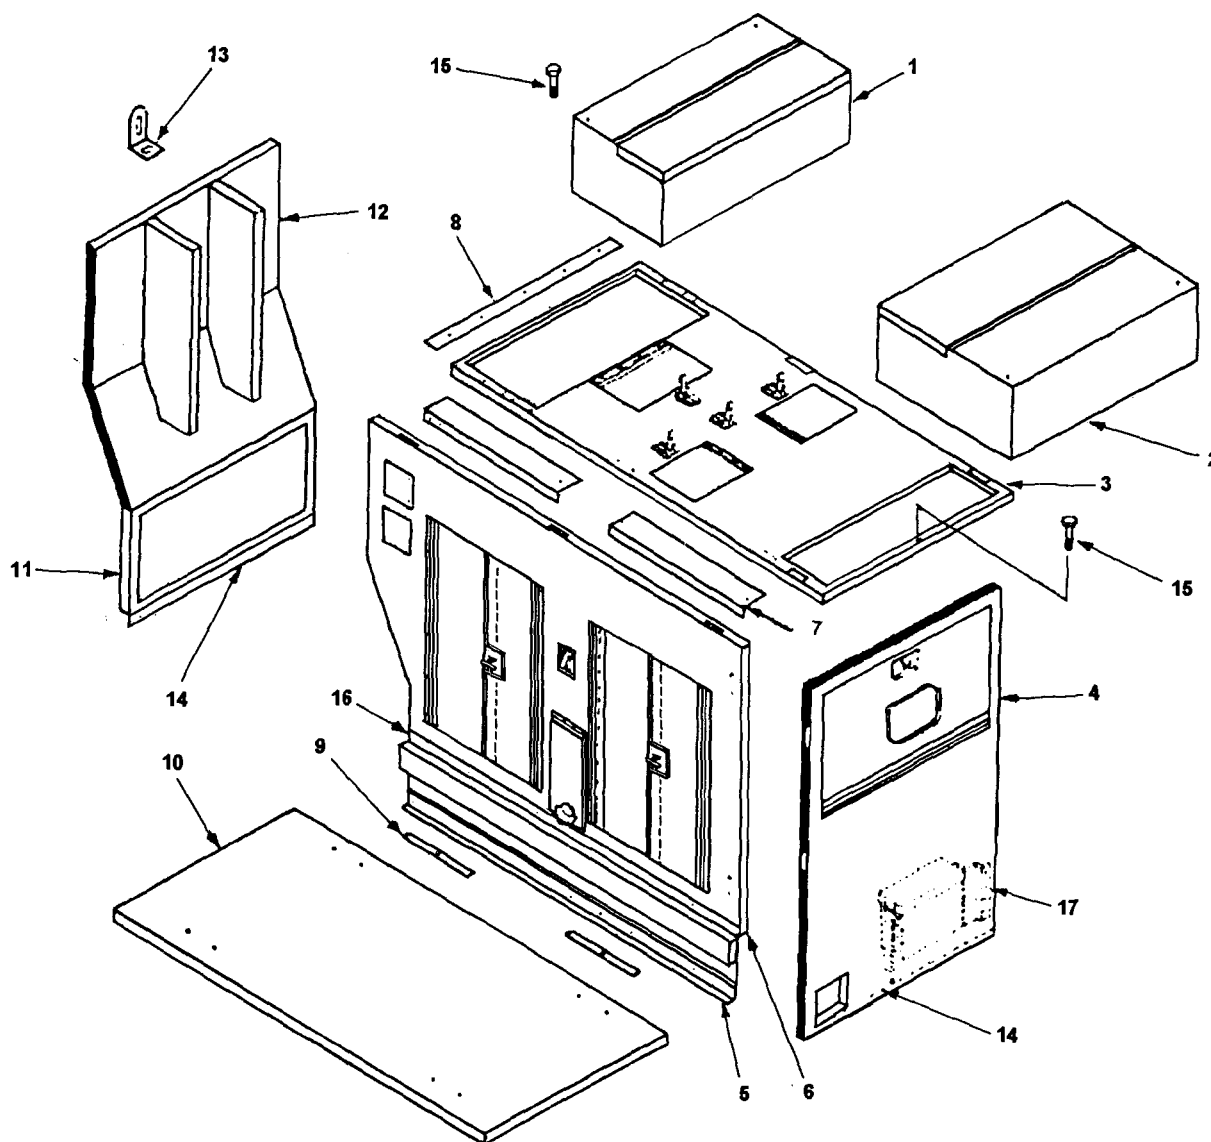

Figure 5-19. Acoustic Suppression Kit Major Components
- (9) Raise side panel skirt 90° and remove screws, capscrews, washers, keepers, and remove upper side panel skirt. (Refer to Figure 5-19). Attach lifting sling, and carefully raise and position side panel assembly on mounting member.
- (10) Install three rubber washers, three flat- washers, and three locking nuts in bottom side panel. Ensure rubber flaps are flat against radiator and are pointed forward. Remove plastic plug and feed oil drain hose through side panel hole.
- (11) Remove lifting sling from side panel.
- (12) Repeat steps (9) thru (11) to install other side panel.
- (13) Position front lower panel assembly on generator set. Ensure top rubber flat is in raised position on radiator shell lip. Remove plastic plugs from rotolocks holes. Align male and female rotolocks and, using hex tool, turn rotolock to secure the front lower panel assembly. (Refer to Figure 5-19.) Install plastic plugs. Ensure mounting zee is below bottom tray assembly.
- (14) Attach lifting strap to front top panel, and raise front top panel assembly on side panels. Ensure alignment pins fit in holes for proper alignment. Remove plastic plugs from rotolockholes. Align male and female rotolocks and using hex tool, turn rotolock to secure the front top panel assembly. Remove lifting strap. (Refer to Figure 5-19.) Install plastic plugs.
- (15) Position exhaust extension on engine exhaust. Install and tighten damp to secure the exhaust extension. Exhaust extension opening must be pointed down and must not interfere with other components later.
- (16) Attach lifting strap on rear panel assembly, and position rear panel assembly on generator set. Ensure alignment pins are in holes for proper alignment. Remove plastic plugs from rotolock holes. Align male and female rotolocks and, using hex tool, turn rotolocks to secure the rear panel assembly. Remove lifting strap. (Refer to Figure 5-19.) Install plastic plugs. Ensure mounting zee is below bottom tray assembly.
- (17) Attach lifting sling to roof panel assembly, and position on generator set. Ensure alignment pins are in holes. It maybe necessary to use C-clamps to pull the side panels into position using the lifting clevis as an anchor for the C-clamp. Remove plastic plugs from rotolock holes. Align male and female rotolocks and, using hex tool, turn rotolocks to secure the roof panel assembly. Remove the lifting sling. (Refer to Figure 5-19.) Install plastic plugs. Install two socket head capscrews to secure roof panel assembly.
- (18) Slide sealing angle into position, and tighten capscrews.
- (19) Tighten capscrews securing mounting members.
- (20) Attach lifting sling to inlet turn assembly, and position on roof assembly. Remove the lifting sling. Remove plastic plugs from rotolock holes. Align male and female rotolocks and, using hex tool, turn rotolocks to secure the inlet turn assembly. (Refer to Figure 5-19.) Install plastic plugs.
- (21) Attach lifting sling to discharge turn assembly, and position on roof assembly. Remove the lifting sling. Remove plastic plugs from rotolock holes. Align male and female rotolocks and using hex tool, turn rotolocks to secure the discharge turn assembly. (Refer to figure 5-19.) Install plastic plugs.